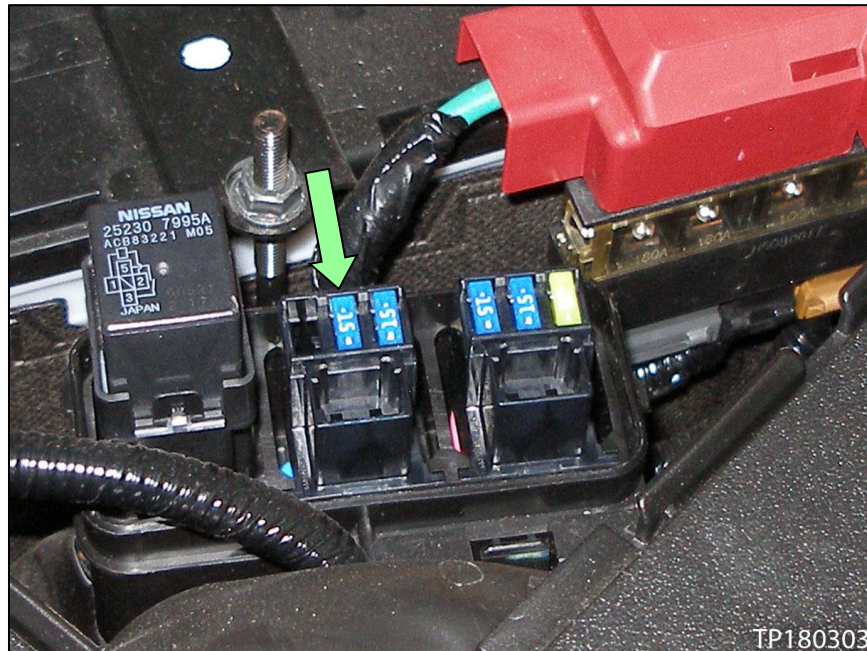

Figure 2
- b. Remove the fuse and fusible link cover, and then remove the 15 amp fuse (for fuel pump) where shown in Figure 2.